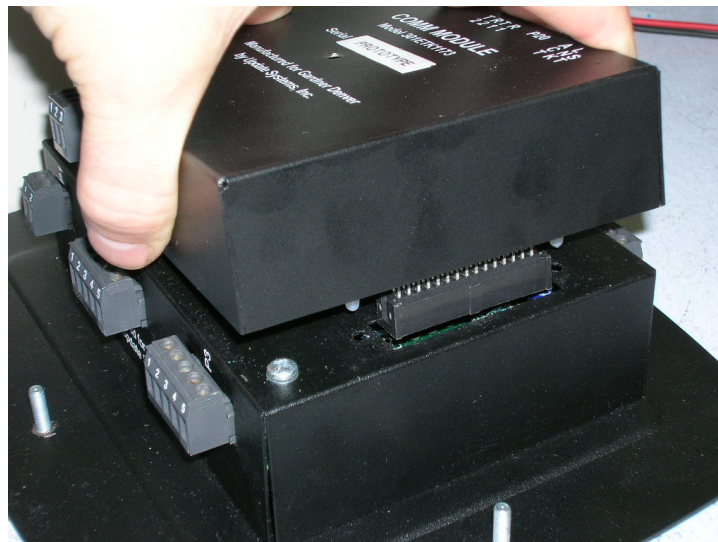

Figure 3 - Insert Comm Module Connector
Step 3 – Inset the connector protruding from the backside of the Communications Module into the expansion connector on the AirSmart controller, as seen in Figure 3, and press into place. **Do not** force the connectors together; the two pieces should fit together easily.